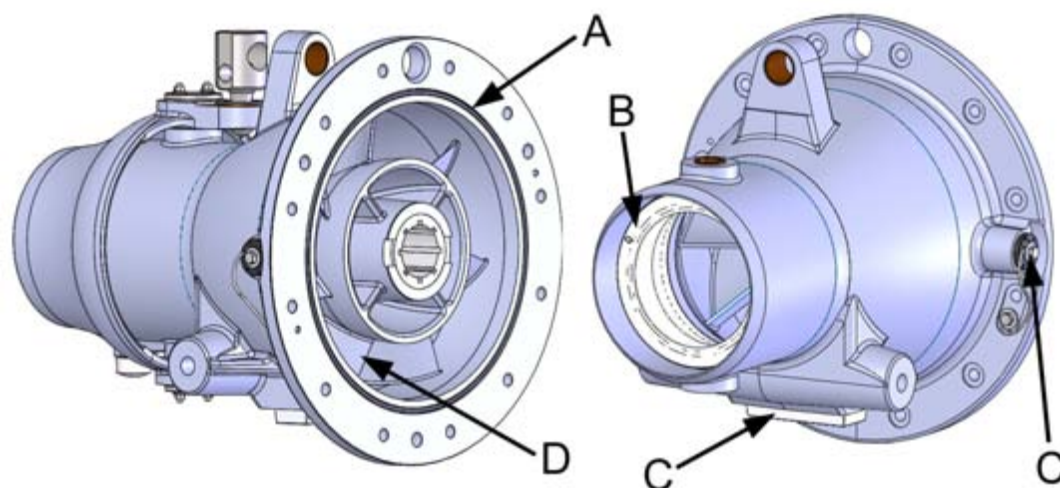

Figure 75. Stator o-ring and choker
- the o-ring (figure 75, point A).
- the choker (figure 75, point B).
- the zinc anodes (figure 75, point C, 2 pcs).
Typically the tips of the blades suffer most damages in the stator (figure 75, point D). These kinds of damage can be prevented by repair painting any minor damage.
1. Remove the old o-ring (figure 75, point A).